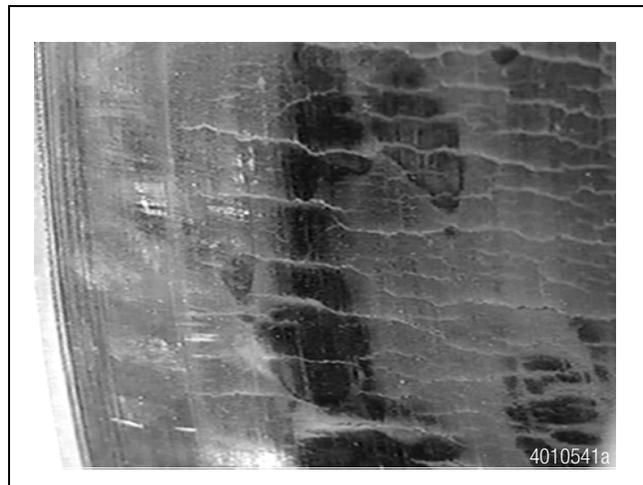

Figure 20
- Heavy heat crazing that covers over 75% of the brake shoe width. Figure 20.